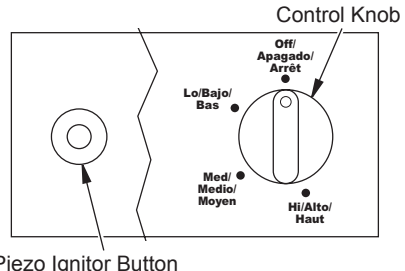

Figure 5 - Control Knob and Piezo Ignitor
5. Slightly press and turn control knob counterclockwise to the LO position (see Figure 5).
8. When burner remains lit, set heater at the desired heat level by slightly depressing the control knob and turning it counterclockwise to the MED or HI settings (see Figure 5, page 5).